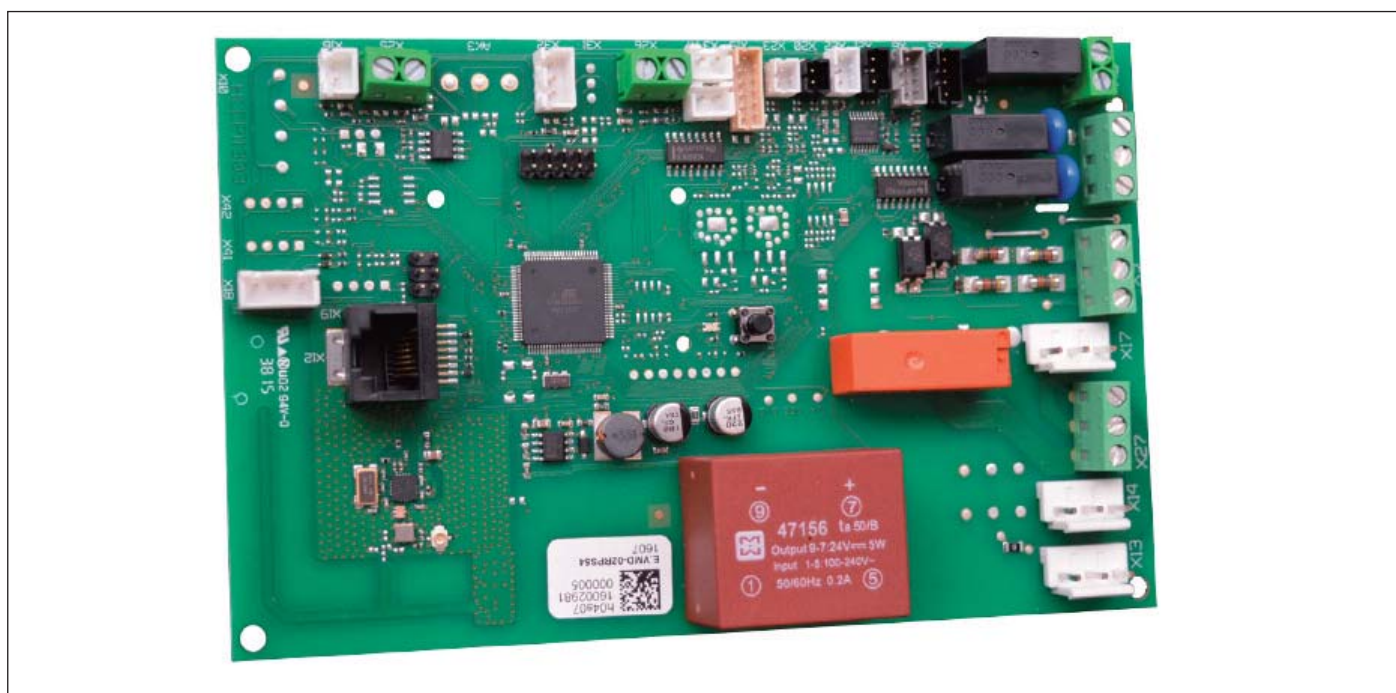

fig. 16
- Controllore elettronico a microprocessore, installato a bordo (fig. 16).
- Electronic control board with installed microprocessor (fig. 16).